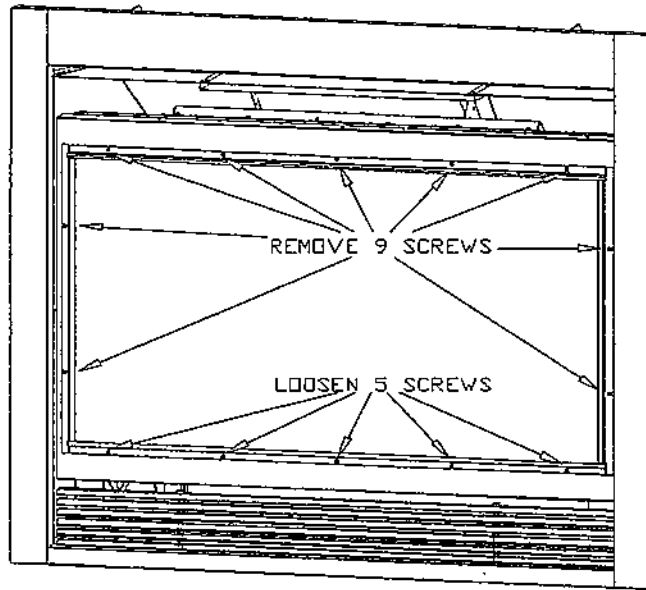

FIGURE 6
2. REMOVE THE GLASS ASSEMBLY. See figure 6, page 7.
- A. Loosen and remove the (5) top glass clip screws and set aside.
- B. Loosen but do not remove the (5) bottom glass clip screws.
- C. Loosen and remove the (4) side glass clip screws.